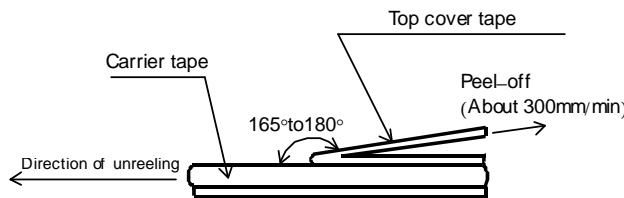
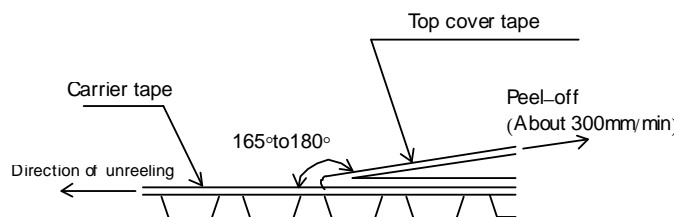

Figure-6
Figure-7
- 5). The peel strength of the top cover tape shall be within 0.1N to 0.5N on the test method as shown in the following RMC10, 16, 20, 32: Figure-6, RMC35,50,63: Figure-7.